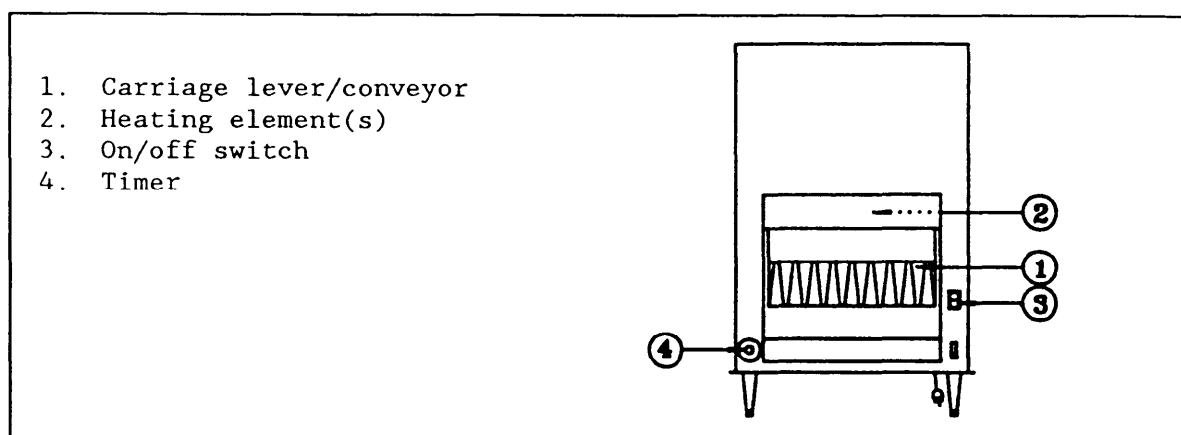

Figure 14
5.14.2 Major Toaster Components. Major toaster components include potentiometer, solenoid, solid state control, and the components shown on Figure 14.